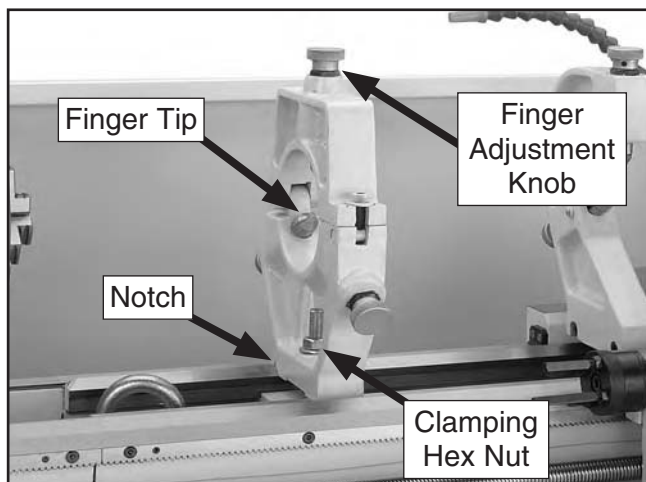

Figure 63. Steady rest controls.
2. Thoroughly clean the machined base of the steady rest so that it will sit evenly on the bedway, then place it on the lathe bedway so that the triangle notch fits over the bedway prism (see **Figure 63**).
3. Position the steady rest where required to properly support the workpiece, then tighten the clamping hex nut shown in **Figure 63** to secure it in place.